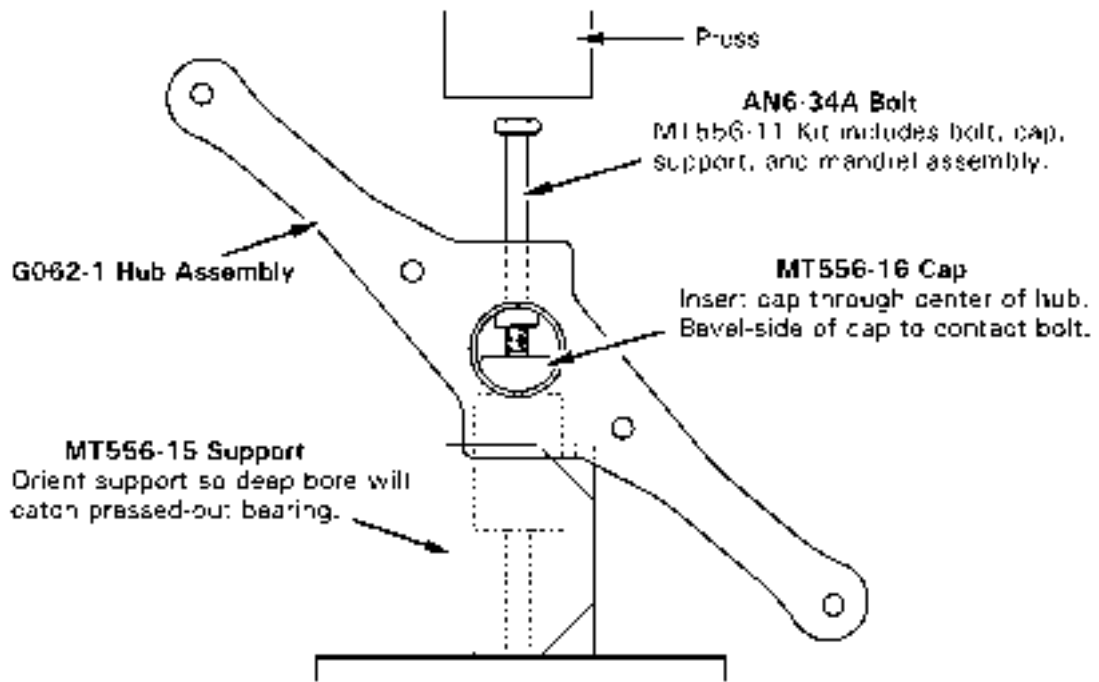

FIGURE 9-17 ELASTOMERIC BEARING REMOVAL
3. Refer to Figure 9-17. Press bearing(s) from hub using MT556-11 bearing removal (and installation) tools.